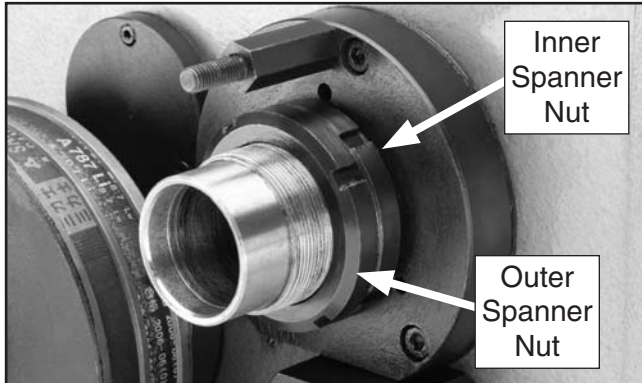

Figure 90. Spindle spanner nuts.
- Place the chuck key in the cam-lock socket to keep the spindle from rotating, and remove the outer spanner nut shown in **Figure 90**.